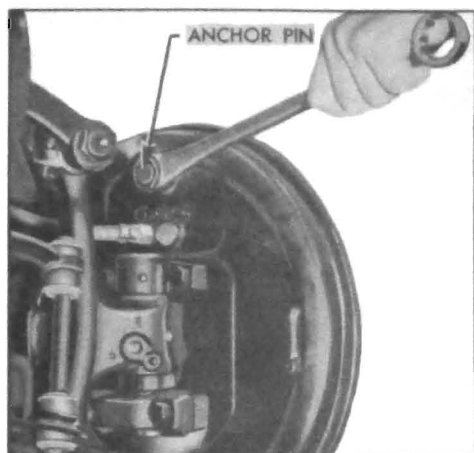

Figure 9-9—Using Anchor Pin Nut Wrench J 854
5. Check all anchor pin nuts with 16" Wrench J 854 to make certain nuts are tight. See figure 9-9. If an anchor pin nut is found loose, reset anchor pin as instructed in paragraph 9-10, step 19 otherwise *do not disturb anchor pins*.
14. Check all backing plate attaching bolts to make sure they are tight. Check anchor pin nuts for tightness, using Wrench J 854 (fig. 9-9). If an anchor pin nut is found loose, anchor pin must be reset as described later (step 19).
(b) Use Wrench J 854 (fig. 9-9) to loosen anchor pin nut just enough so that pin can shift in slotted hole in backing plate. If nut is loosened too much, the anchor pin will tilt due to pull of brake shoe springs.